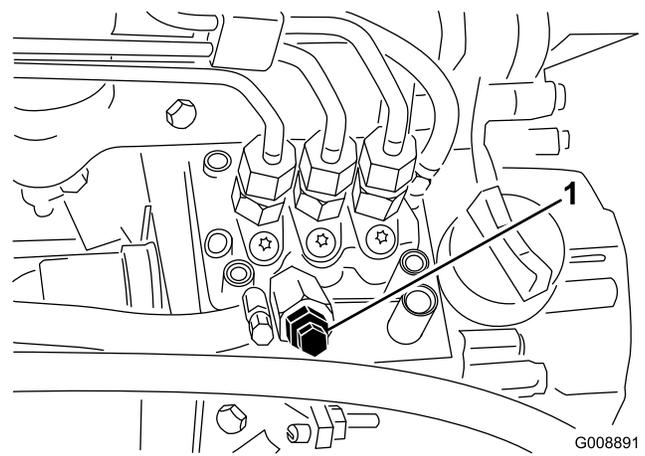

Figure 46
4. Open the air-bleed screw on the fuel-injection pump (Figure 46).